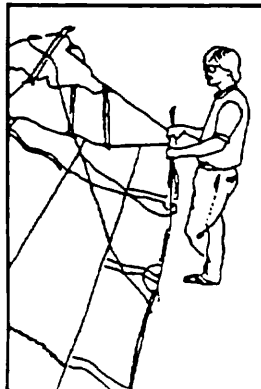

Figure 64
9) Fold the wings in the rest of the way and pull the sail over the top of the leading edges. Roll the straight battens and the washout tips in the sail, and tie the sail with the velcros provided. We recommend that you roll and tie each side of the sail separately. (Figure 64, 65)